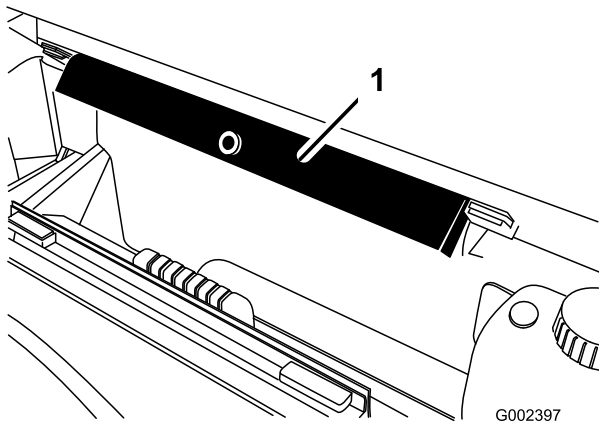

Figure 37
2. Remove bed support from storage brackets on back of ROPS panel (Figure 37).